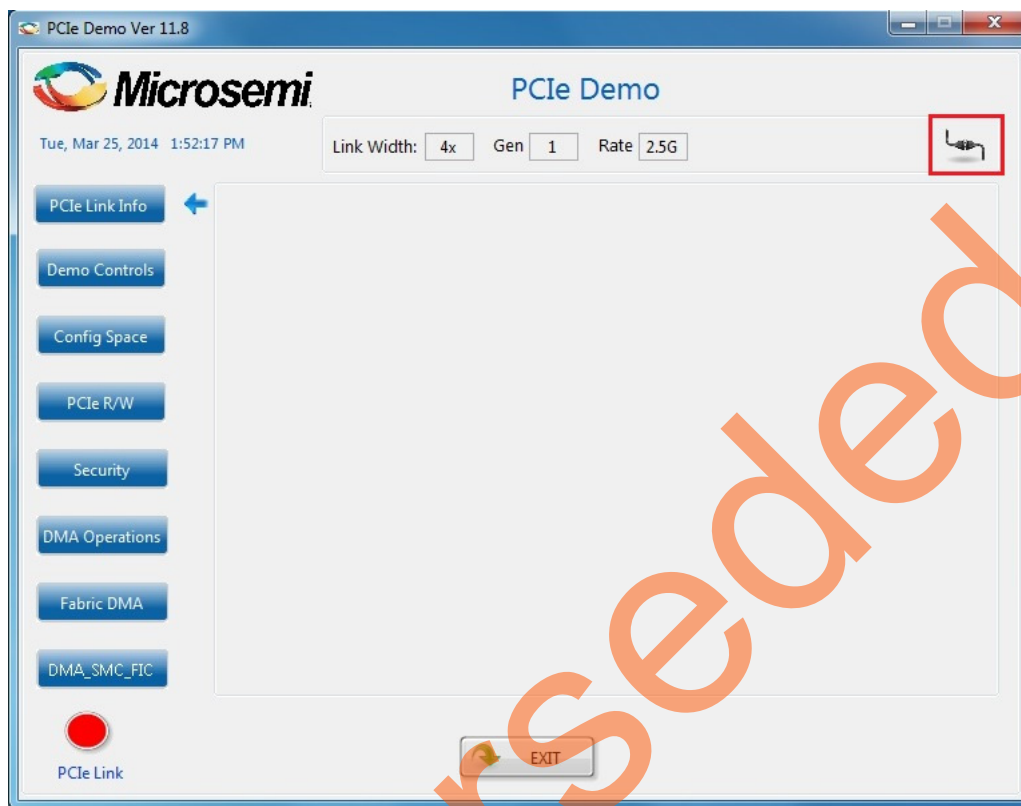

Figure 63 • PCIe Demo GUI
2. Invoke the GUI from **ALL Programs > PCIeDemo > PCIe Demo**. The GUI is displayed as shown in Figure 63.